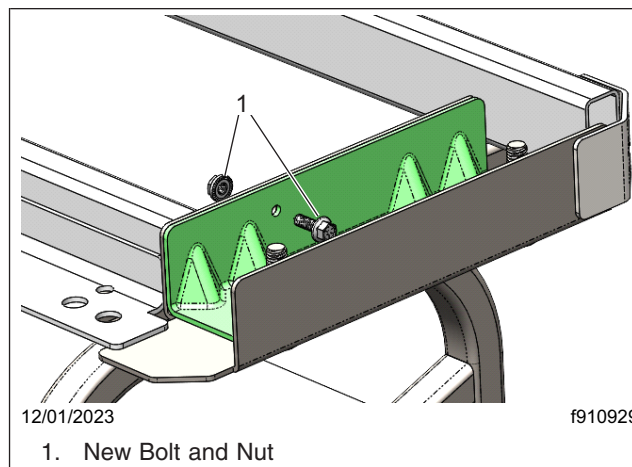

Fig. 7, Installing the 1/4-Inch Bolt
10. Install the 1/4-inch bolt and nut. Tighten the fasteners 9 lbf-ft (12 N·m). See Fig. 7.